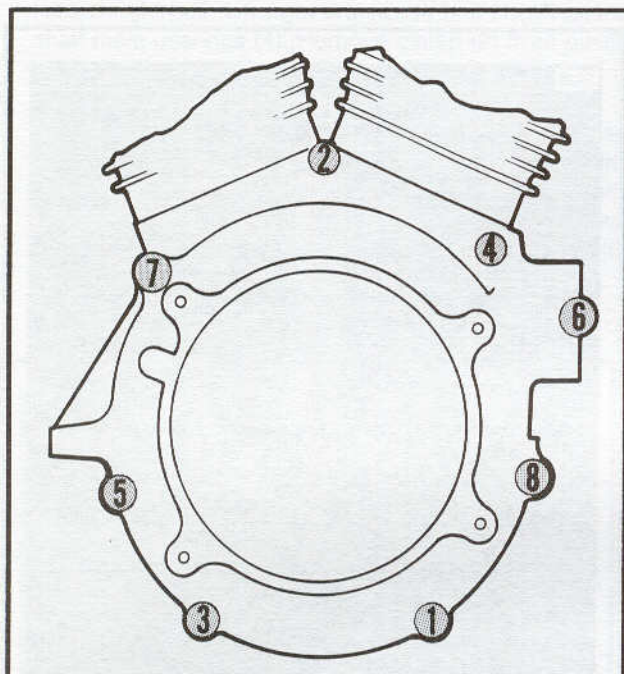

Figure 3-56. Crankcase Torque Sequence
- See Figure 3-56. First tighten to 10 ft-lbs torque in the sequence shown, starting with # 1.